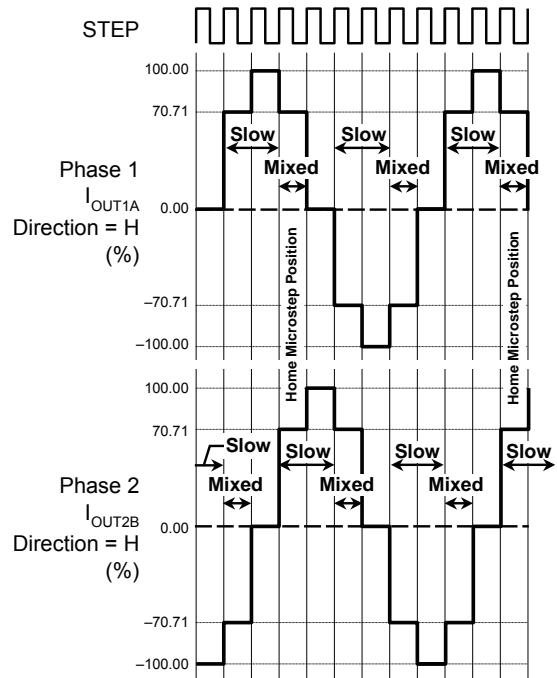

Figure 3. Decay Modes for Half-Step Increments
**Mixed Decay Operation.** The bridge can operate in Mixed Decay mode, depending on the step sequence, as shown in figures 3 thru 5. As the trip point is reached, the A3983 initially goes into a fast decay mode for 31.25% of the off-time,  $t_{\text{OFF}}$ . After that, it switches to Slow Decay mode for the remainder of  $t_{\text{OFF}}$ .